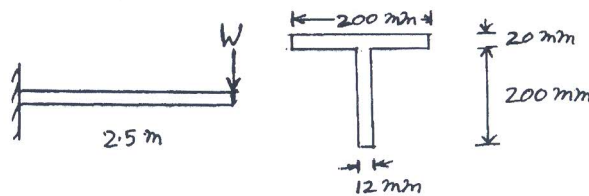

Fig Q3(a)
- 3 a. A beam of T section has a length of 2.5m and is subjected to a point load as shown in Fig Q3(a). Calculate the compressive bending stress and plot the stress distribution across the cross section of the beam. The maximum tensile stress is limited to 300MPa. Calculate the value of W. (12 Marks)